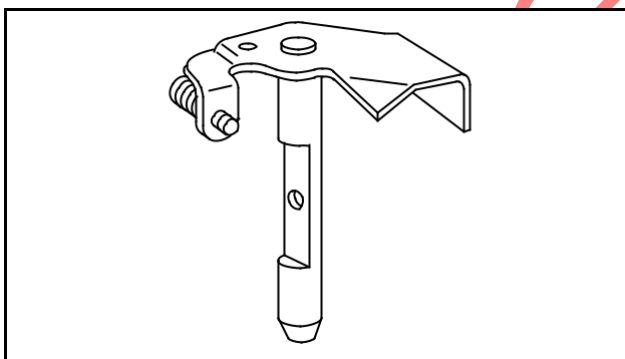

Fig. 177 - THROTTLE SHAFT AND LEVER, TYPICAL
1. Throttle shaft, Fig. 177, is removed by using a Phillips or standard screwdriver to remove throttle plate screw.